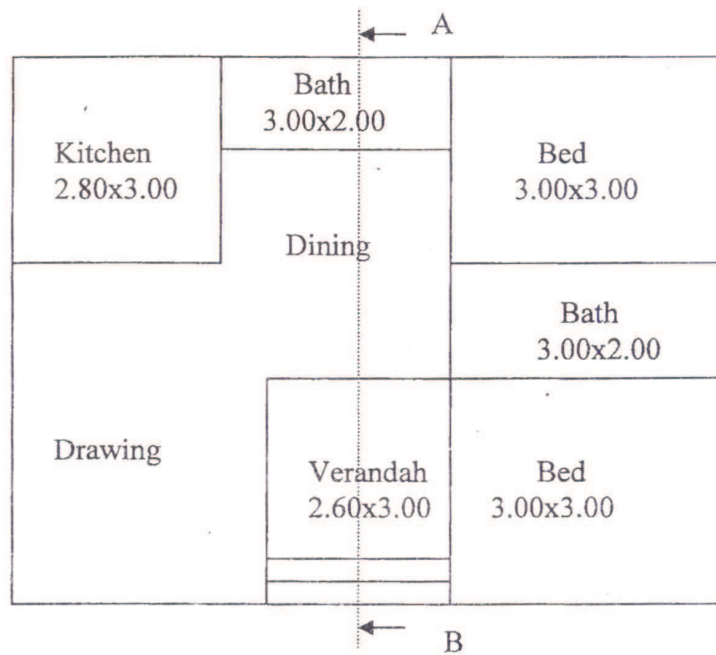

Fig 1
5. The line plan of a building is given in fig. 1. Positions and sizes of doors, windows etc. are to be provided. All dimensions are in meters. The specifications are as follows :